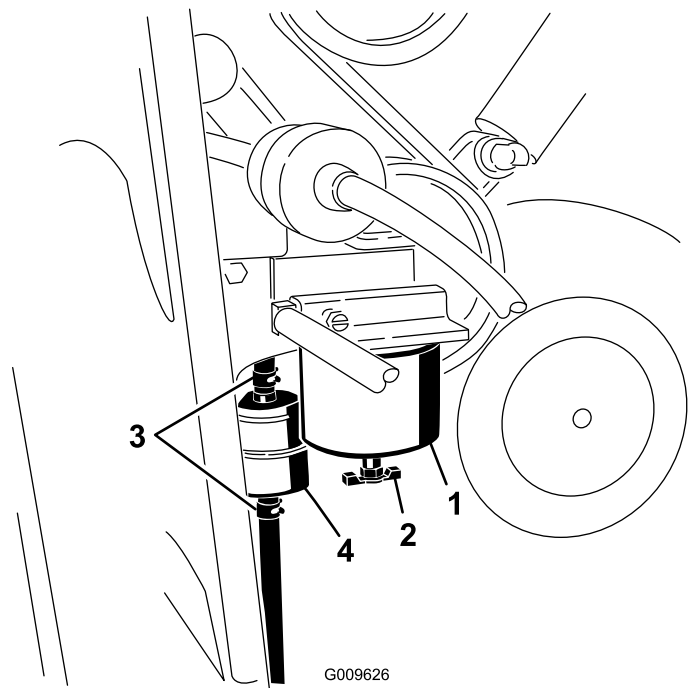

Figure 37
1. Locate the fuel filter on the right side of the engine (Figure 37) and place a clean container under it.
1. Locate the fuel filters on the right side of the engine (Figure 37) and place a clean container under it.
2. Clean the area where the filter canister mounts (Figure 37).
3. Remove the filter canister and clean the mounting surface (Figure 37).
5. Install the filter canister by hand until the gasket contacts the mounting surface, then rotate it an additional 1/2 turn (Figure 37).
6. Locate the in-line filter behind the fuel filter canister (Figure 37) and note the direction of flow arrow on the side of the in-line filter.
7. Open the clamps on each end of the in-line filter and slide the hoses off of it (Figure 37). Discard the filter.
8. Slide the hoses over the end of a new filter (Figure 37), ensuring that the arrow on the filter is pointing in the same direction as the one on the old filter.